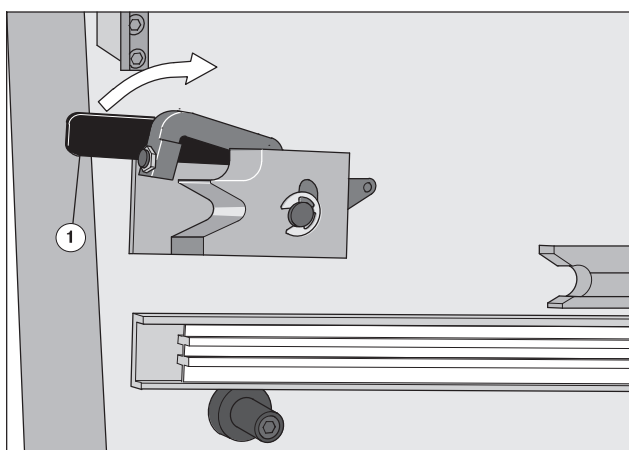

Fig. 64 The locking mechanism of the plug-in numbering unit
10. Press the locking lever on D.S. (Fig. 64/1) and O.S. up to the stop in the direction of the feeder.